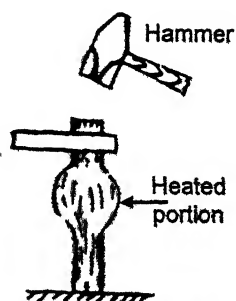

Fig. 9.11. Upsetting.
**Upsetting** (Fig. 9.11) is the process of increasing cross-sectional dimensions when forging. The process implies that the *cross-section is increased and the length decreased*. It may be done in a number of ways, each varying according to the details of the article required and the equipment in the shop. The simplest is to place the heated article on the anvil and hammer directly on the upper end. This increases the cross-section and reduces the length of the metal being worked.